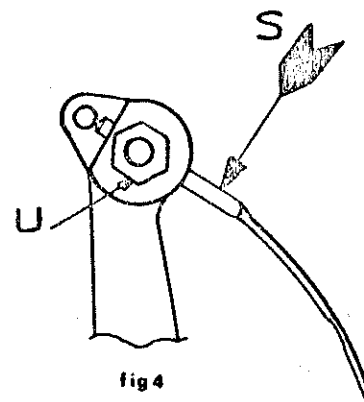

fig 4
TO FACILITATE SETTING 296 MACHINE NEEDLES APPLY DOWNWARD PRESSING ON NEEDLES AT POINT (S) WHILE TIGHTENING NUT (U) FIG. 4.